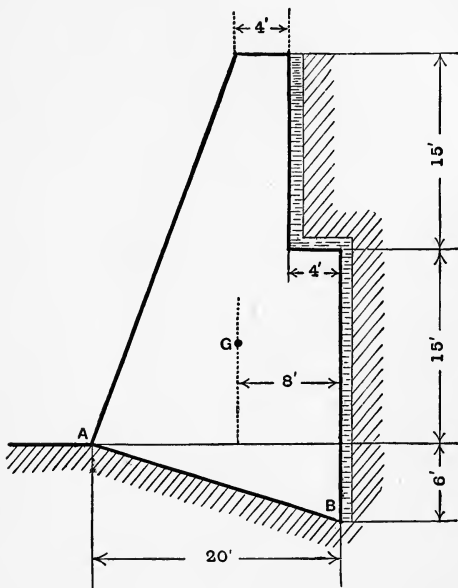

Fig. 1.
2. Water is found to have gathered behind the reservoir wall as shewn in fig. 1. Determine the point in AB at which